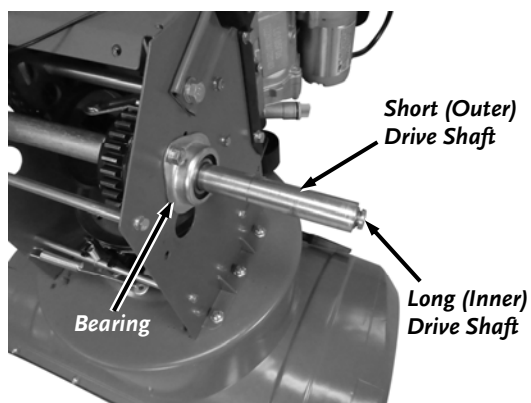

Figure 74
9. Hold the larger diameter outer Shaft of the right-side Axle Shaft while hitting the smaller diameter inner Shaft with a Dead Blow Hammer (**Figure 74**). This will push the smaller Shaft in, separating it from the larger outer Shaft.
8. Install the right side Wheel Bearing Assembly (**Figure 74**).